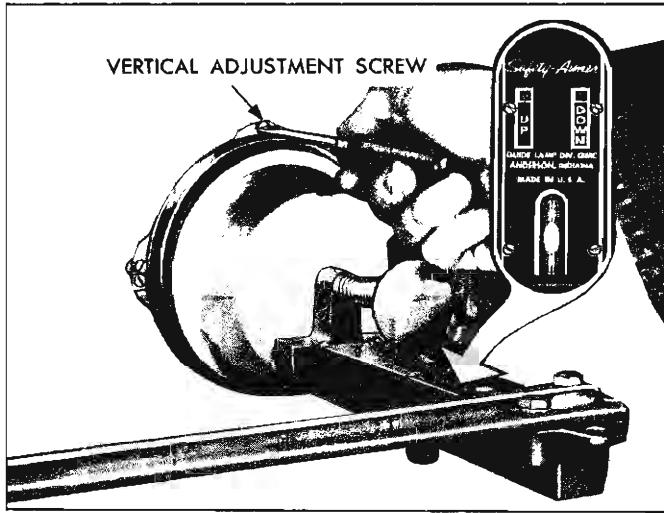

Fig. 5—Headlamp Vertical Adjustment
8. a. Numeral "2" (fig. 5) should appear in the "down" window of each aimer. If not, loosen knob at underside of aimer arm and slide back and forth until the numeral does appear.
- b. Turn headlamp vertical aim screw (fig. 5) on left-hand unit counter-clockwise until the bubble is at the inner end of the glass tube. Then turn screw clockwise until bubble is centered in tube.